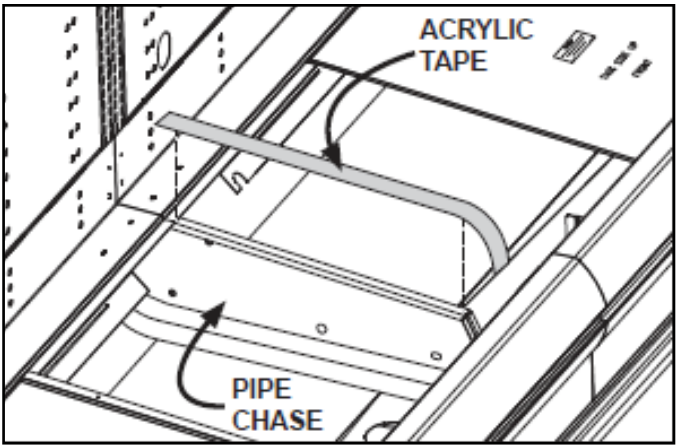

Fig. 4: Sealing the pipe chase
1. Seal the interior case-to-case joints with caulk (supplied), then apply acrylic tape (supplied) over the pipechase seam (Fig. 4). The tape acts as a watershed preventing water from settling in the case joint.